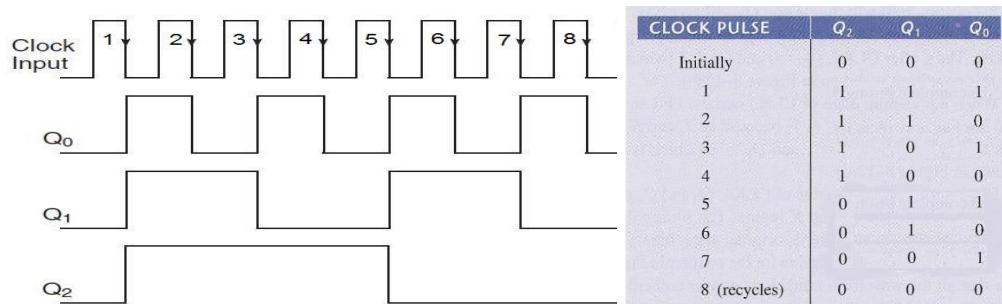

Fig. 5.18
- iv- The count sequence is given as 000, 111, 110, 101, 100, 011, 010, 001 and 000. The timing waveforms and truth table are shown in Fig. 5.18.